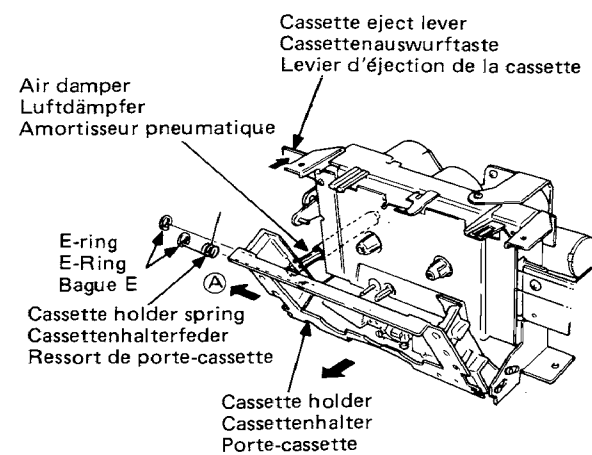

Fig. 7 Abb. 7
(1) Cassette holder (Fig. 7)
(1) Cassettenhalter (Abb. 7)
(1) Porte-cassette (Fig. 7)